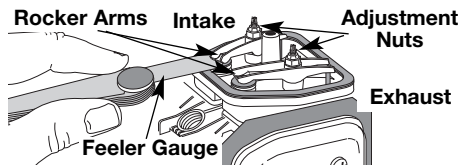

Fig. 36
- The piston is at the top of its travel while looking in the spark plug hole (Fig. 36)
- Slide the feeler gauge between the rocker arm and the valve return spring. Measure the clearance between the valve stem and rocker arm (Fig. 36). Measure both the intake and exhaust valves.
- Turn the adjusting nut using a 5/16 inch (8 mm) wrench or nut driver (Fig. 36).